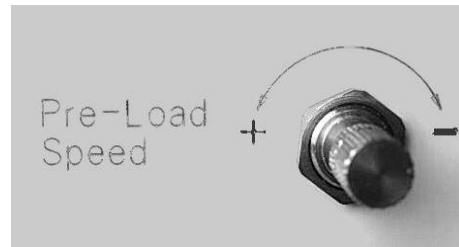

Fig. 10.02
2. Let go of the left foot pedal and the die closes on to the terminal. The pre-crimp speed can be adjusted with the throttle marked "**Pre-Load Speed**" (Fig.10.02).